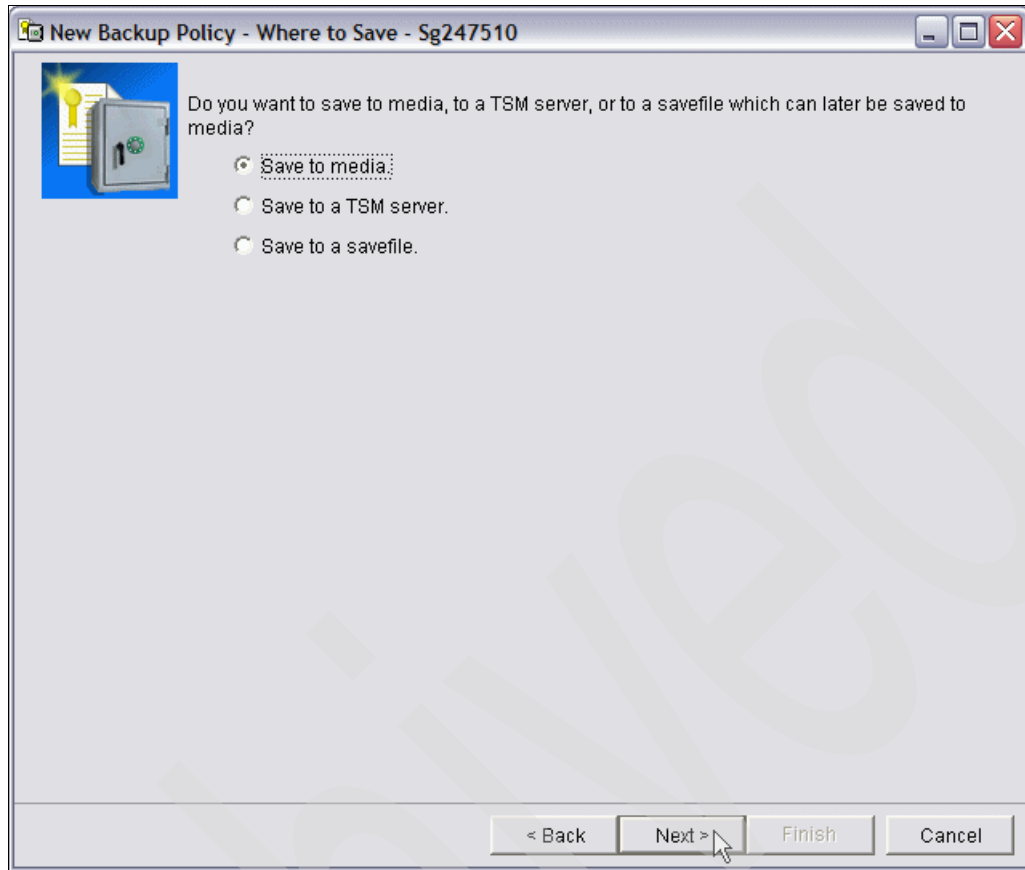

Figure 6-58 New Backup Policy - Where to Save
16. This opens the Where to Save window shown in Figure 6-58. In our example, only one option applies: To media. Neither i5/OS or BRMS knows that this LTO tape library is, in fact, an IBM TS7510.